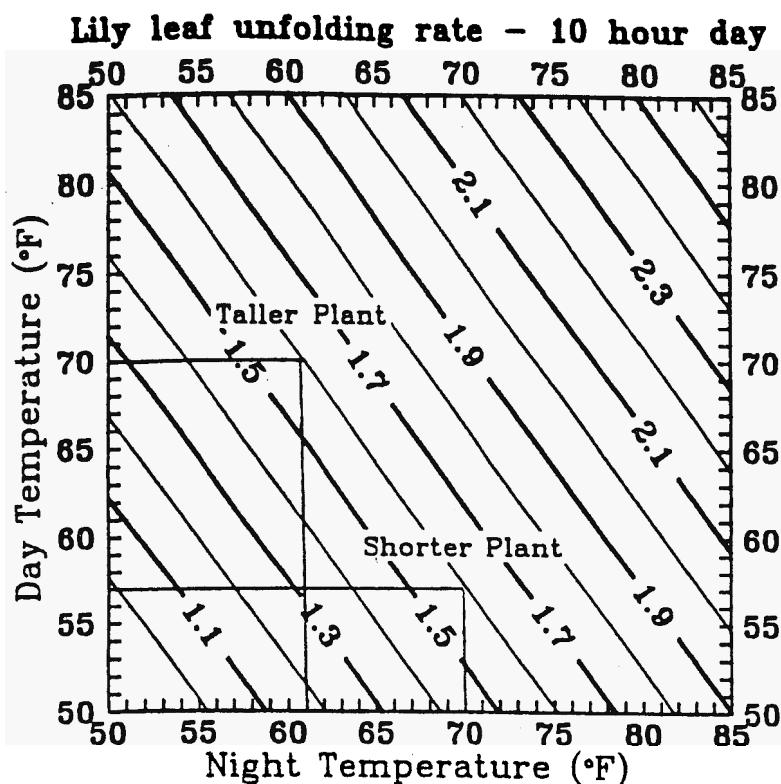
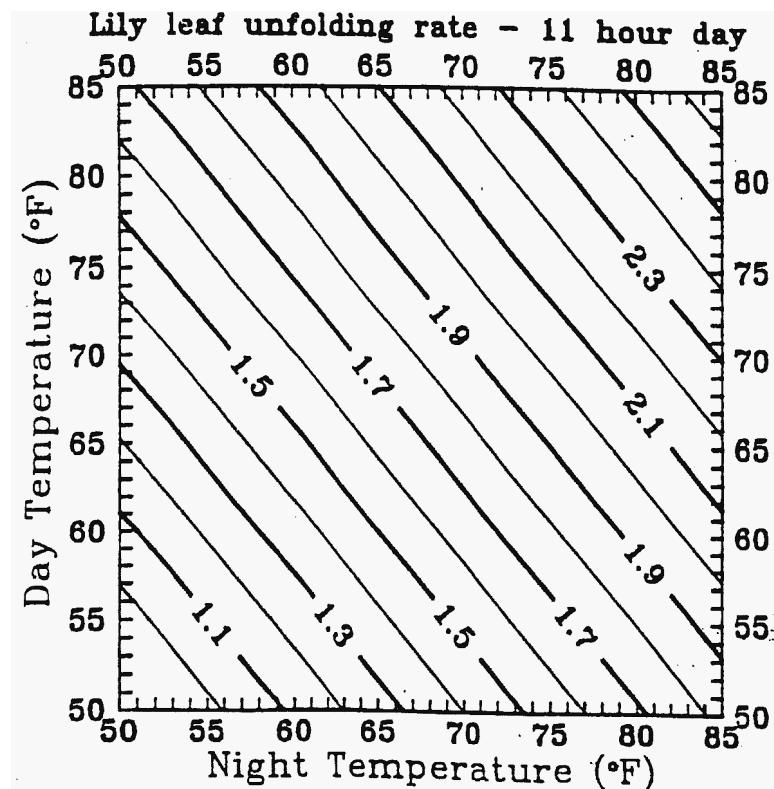
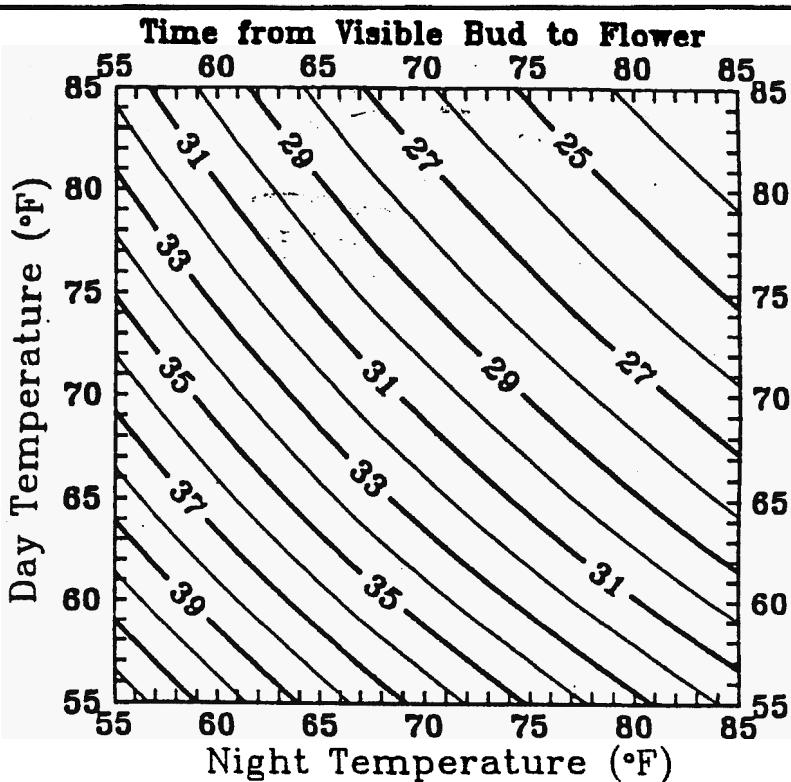

Figure 1a. Isopleth plot of lily leaf unfolding rates for a 10-hour day and a 14-hour night.
Figure 1b. Isopleth plots of leaf unfolding rates for an 11-hour day and 13-hour night.
Figure 2. Isopleth plots of time from visible bud to flower for Easter lilies.
Figures 1a and 1b show combinations of day and night temperatures which result in the same rate of leaf unfolding (Figure 1a for a 10-hour day and Figure 1b for an 11-hour day). Figure 2 shows combinations of day and night temperature that result in the same number of days from visible bud to flower.
Check Figure 1a to find all the combinations of day and night temperatures which will unfold 1.6 leaves per day. Pick out a day temperature and draw a horizontal line to the 1.6 line; the night temperature directly below the point where those lines cross is the corresponding night temperature.
In January and early February, when days are short, use the 10-hour-day graph (Figure 1a); in mid to late February, when the days are longer, use the 11-hour-day (Figure 1b).
**After lilies reach visible bud, use the isopleth plot shown in Figure 2, showing number of days from visible bud to flower.**
After lilies reach visible bud, use the isopleth plot shown in Figure 2, showing number of days from visible bud to flower. Keep measuring your plants and adjust your temperatures as you did before, if your plants are too tall or too short for the "tracking window".